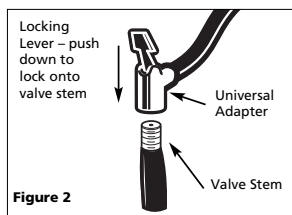

Figure 2
d.) Press locking lever down to lock onto valve stem (see Figure 2).
1. To use inflation accessories, insert accessory into the universal adapter and push the lever to lock into place (see Figure 2). The inflation accessory will fit securely.